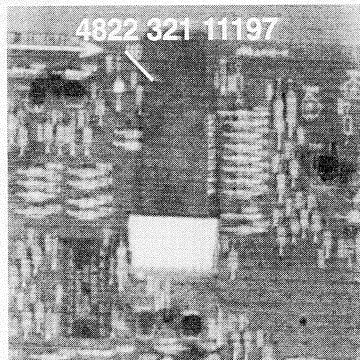

fig2
3. Short-circuit printed board with **brass-sheet (4822 321 11197)** plugged into the flexfoil connector (fig. 2)